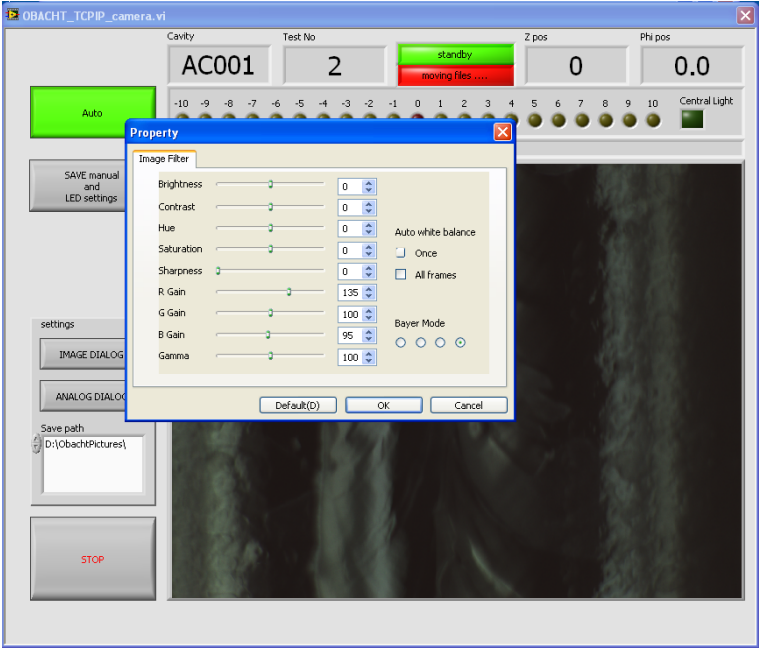

Figure 12: Screen shot of camera GUI – 'IMAGE DIALOG'
- 'IMAGE DIALOG' can be seen in figure 12